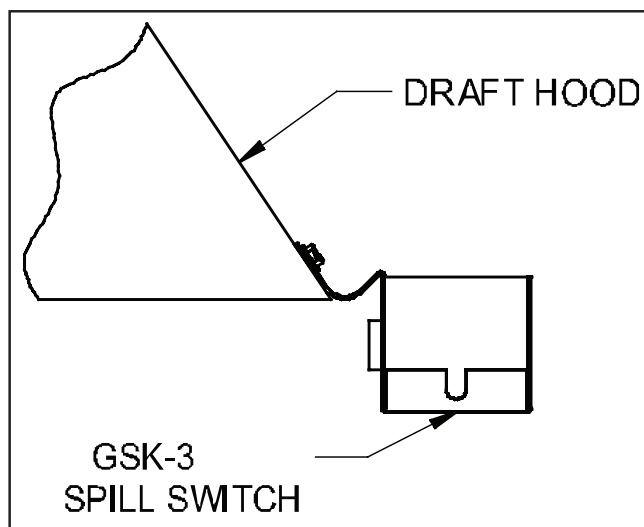

Figure 2
3. Mount the two (2) spill switches onto the draft hood so the switches do not contact any metal. (See Figure 2)